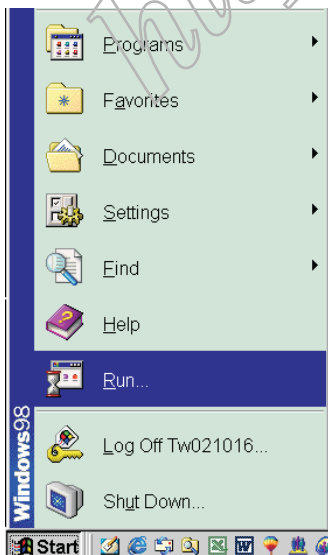

Fig. 5
- 2. Click Start, choose Run at start menu of Windows as shown In Fig. 5.